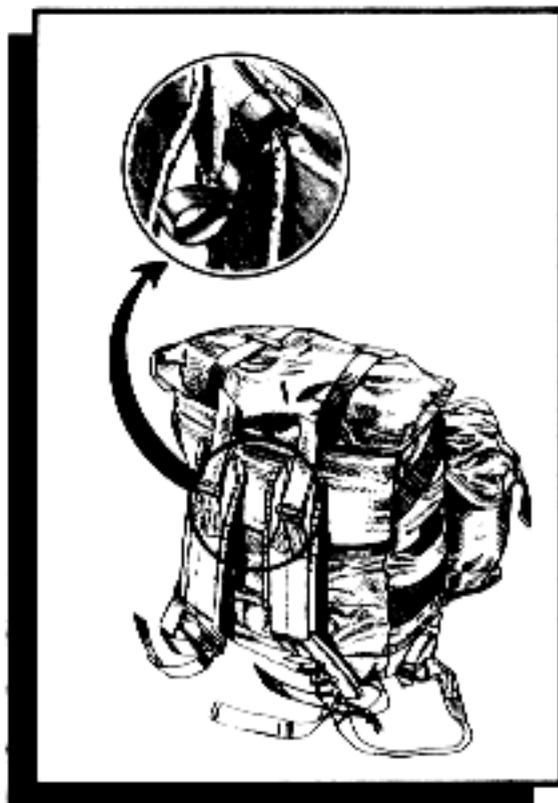

Figure 4-26. Attaching shoulder straps to medium combat field pack.
**Attaching Shoulder Straps to Medium Combat Field Pack.** The medium pack may be carried using the shoulder straps without the pack frame. To attach the shoulder straps to the pack (figure 4-26), insert the looped end through the D-ring on the bottom of the pack, pass the other end of the shoulder strap through the loop, and pull tight. Next, insert the webbing of the loose end of the shoulder strap through the metal loop at the top of the pack, making sure the padded side of the shoulder strap is facing inward. Then thread the webbing through the nonslip